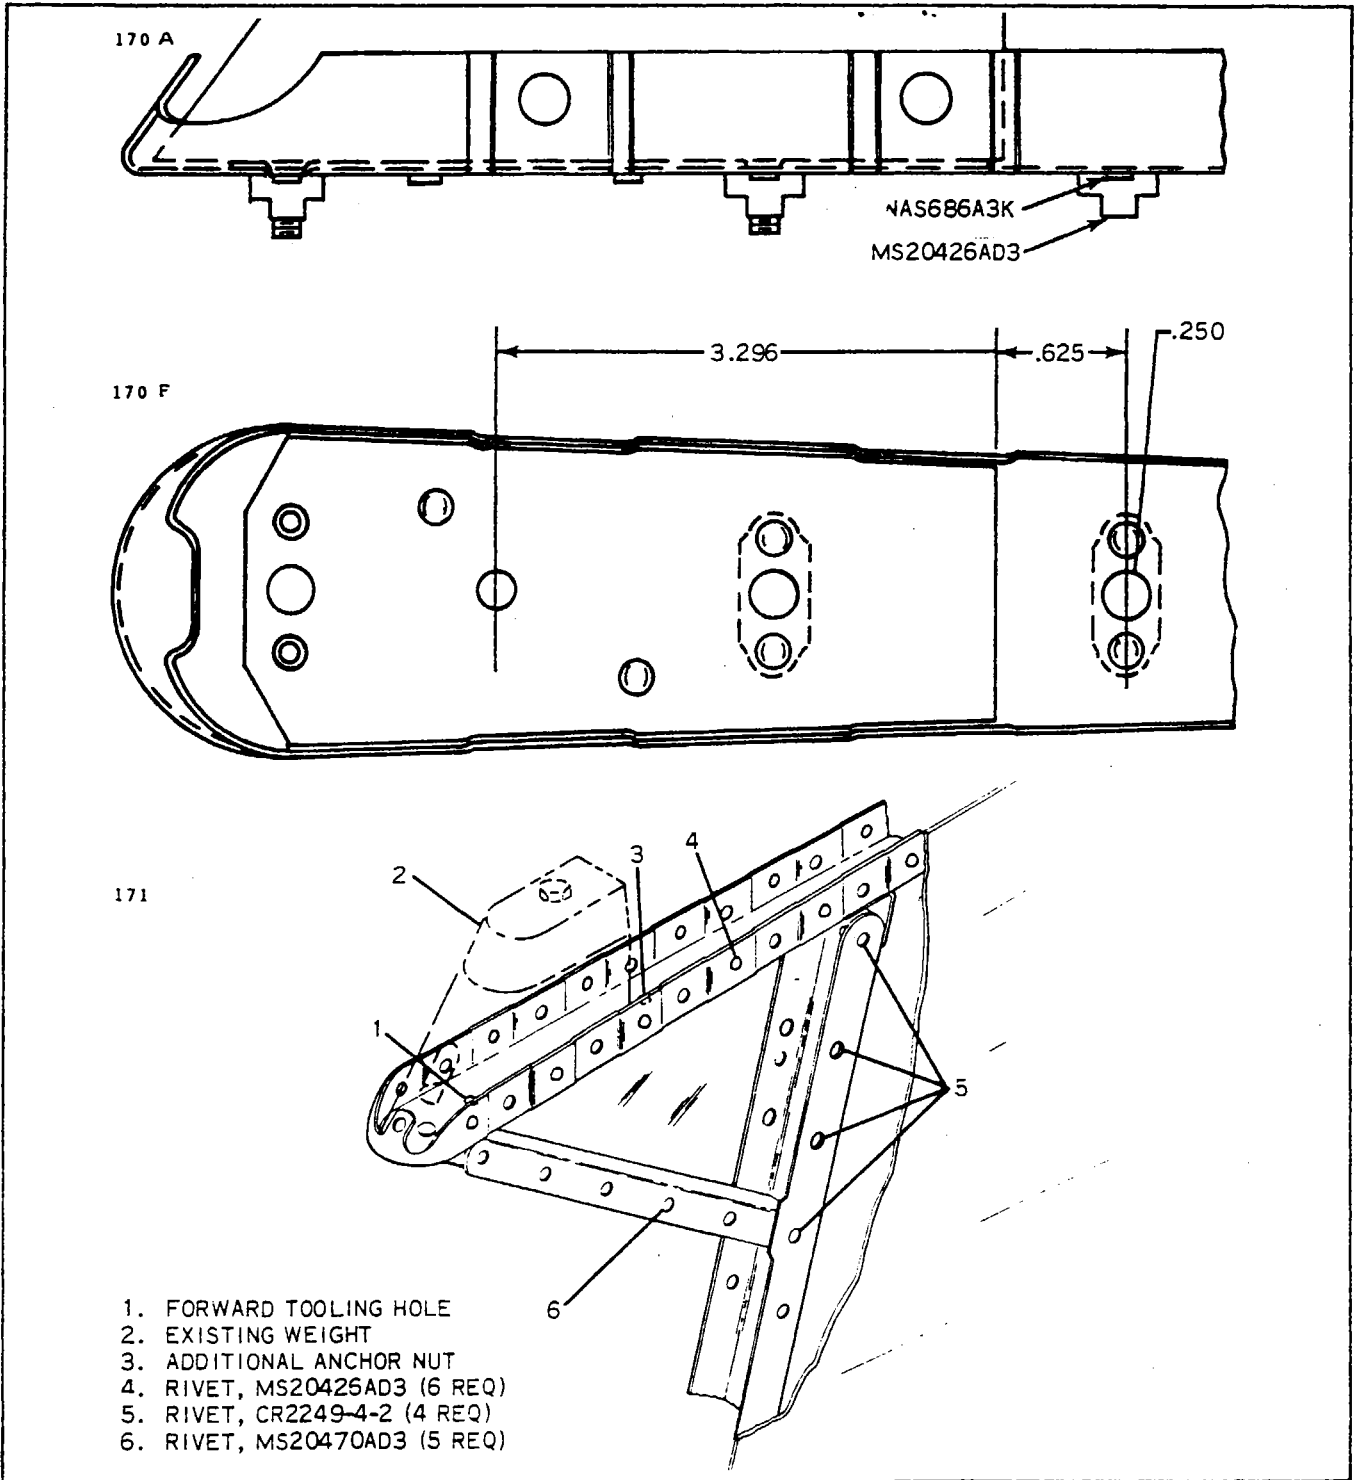

Figure 4-29. Installation of Rudder Balance Weight Anchor Nut
4-95. INSTALLATION OF RUDDER BALANCE WEIGHT ANCHOR NUT. (Refer to Figure 4-29.)
- b. Locate and drill a hole .250 of an inch in the web of the rib for the installation of the additional anchor nut (3). The hole shall be .625 of an inch aft of the existing weight (2) or 3.296 inches aft of the center of the forward tool hole (1).
- e. Resecure skin on rudder tip. (Refer to Figure 4-29)